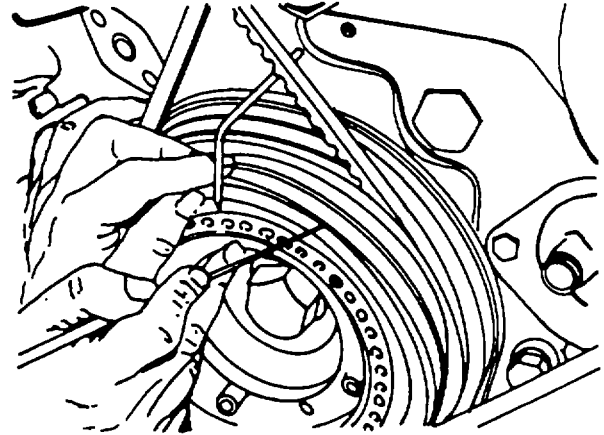

Figure 4-50. Measuring and Making
5. Measure and mark the half-way position between the two marks (figure 4-50).